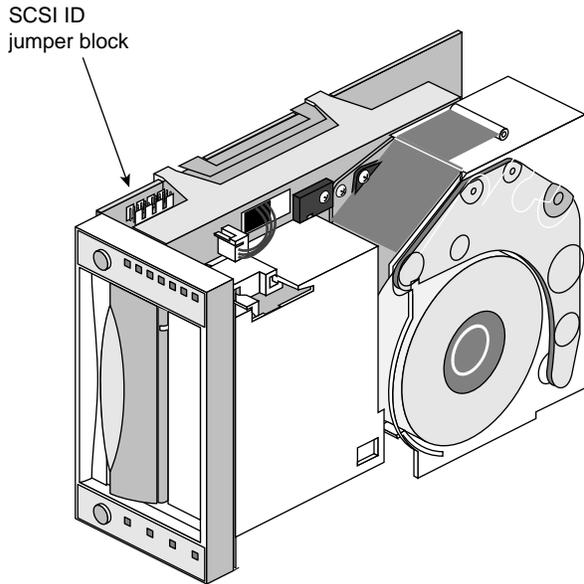

Figure 2-4 SCSI ID Selection Connectors
2. Gently slide the DLT drive forward approximately 2.5 inches (5 cm), until you can just access the SCSI ID jumper plug (see Figure 2-4).
There are two jumper plugs; the SCSI jumpers install into the one that is nearest the back of the unit. See Figure 2-4 to identify the location of the jumper plugs. Do not place jumpers on any other plugs on the drive.